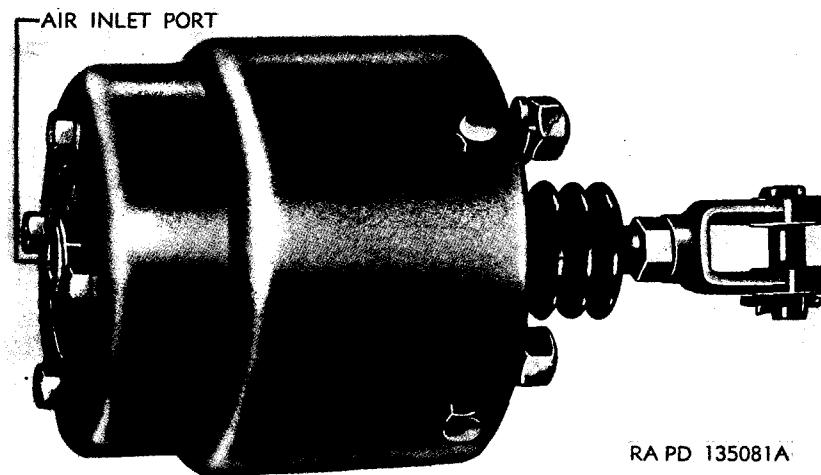

Figure 159. Typical rotochamber.
a. *Description* (fig. 159). Rotochambers consist of a cylindrical body, housing a push rod and attached parts. A tubular diaphragm, attached to both body and push rod assembly permits reciprocal motion of push rod. Type numbers signify the effective pressure area.
b. Connect line 2 (fig. 71) to air inlet port (fig. 159) of rotochamber. With normal air pressure in the system move valve 4 (fig. 71) slowly to the fully applied position. Coat the outer edge of the cover where it meets the body with soap suds to detect leakage. Coat the rubber boot with soap suds to detect leakage. No leakage is permissible. Move valve 4 (fig. 71) to released position.